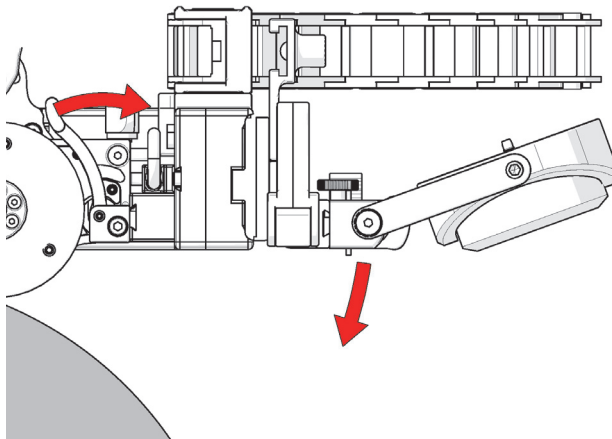

Figure 2-94 Pivot raster arm
6. Release the two levers on the swivel mount to allow pivoting of the raster arm (see Figure 2-94 on page 117).